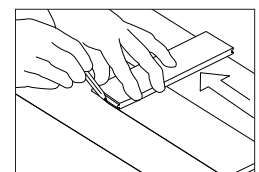

Figure 13
- **Sacrificial board:** If the wall is not straight, scribe the first board (Figure 13) as necessary to maintain alignment with the chalk line. Install a sacrificial board (with a straight edge) using the appropriate fasteners for the subfloor. If a board is used for the starter row, make certain that the groove faces the wall.
- **Wedges:** Align the first row with the wall using wedges to maintain a 1/2" (13 mm) expansion in place and to stabilize the product. If the wall is not straight, scribe the first board (Figure 13) as necessary to maintain alignment with the chalk line.